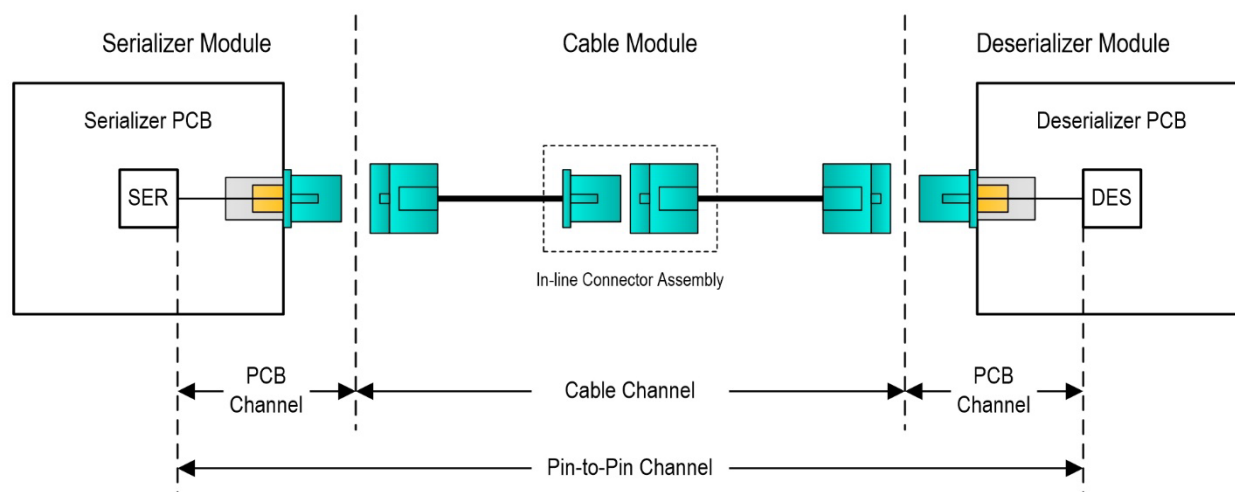

Figure 2.A. GMSL2 Channel Definition
*Note: AC-coupling capacitors and optional PPOC or line-fault components are not depicted in Figure 2.A.